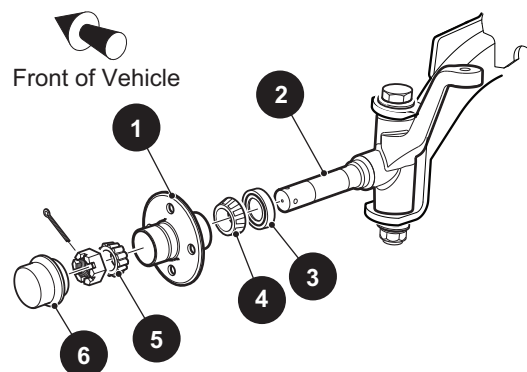

Figure 10 Wheel Bearing Replacement
- Remove the hub (1) from the spindle (2) (Figure 10). See Hub Replacement.
- Remove the grease seal (3), inner wheel bearing (4) and bearing races (5) by tapping, through the other side of hub, the bearing race using a hammer and a soft nonferrous punch. Tap the race in a circular pattern while moving from side to side to avoid damaging the bore of hub.
- Clean the outer wheel bearing (5), inner wheel bearing (4), hub and dust cap (6) in solvent and dry thoroughly. Inspect for signs of damage. If pitting or blue coloration is present in the rollers, the bearing must be replaced. If the roller portion of the bearing is to be replaced, the race must also be replaced.
- To install the race (5), make sure the bore of the hub (1) is clean. Place the new race over the bore of the hub. Tap evenly with a hammer and bearing driver to drive the race fully into the bore. Repeat on the other side of the hub.
- Clean the spindle (2) and pack the new bearings with grease. See Wheel Bearing Packing..